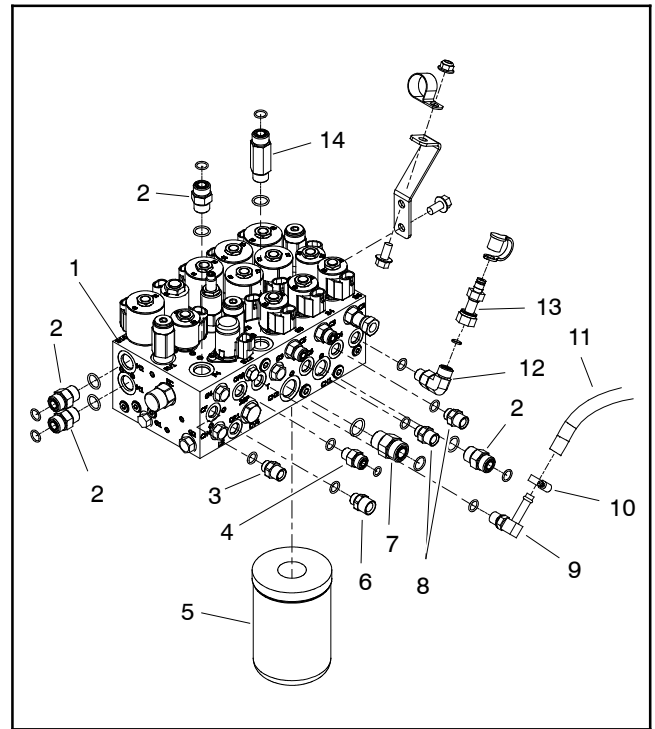

Figure 73
6. If hydraulic fittings are to be removed from manifold, mark fitting orientation to allow correct assembly (Fig. 73). Remove fittings from manifold and discard O-rings.